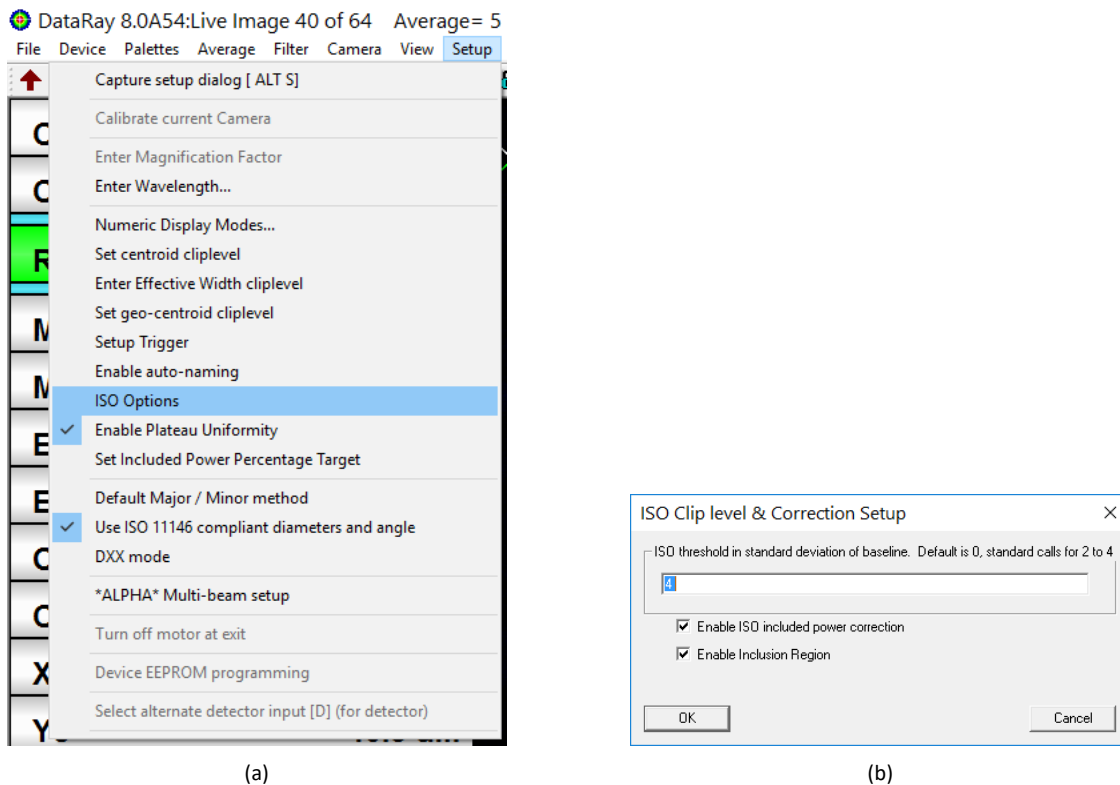

Fig. C.18: (a) Choose ISO Options to change the ISO threshold value. (b) ISO Clip Level and Correction Setup dialog box.
² The ISO 11146 Standard calculations, even when used to find the beam waist of a perfect Gaussian beam, result in a beam waist diameter that is smaller than expected. DataRay has a proprietary correction factor, enabled by default, to correct this discrepancy. This can be disabled in the ISO Clip Level & Correction Setup dialog box (Fig. C.18).
- The ISO threshold defines which pixel values can be ignored based on a factor of the standard deviation of the baseline. The ISO threshold option can be accessed by choosing ISO Options from the Setup menu (Fig. C.18a). The ISO standard calls for a factor from 2 to 4, so try changing this value from 2 to 4 or vice versa in the ISO Clip Level and Correction Setup dialog box (Fig. C.18).